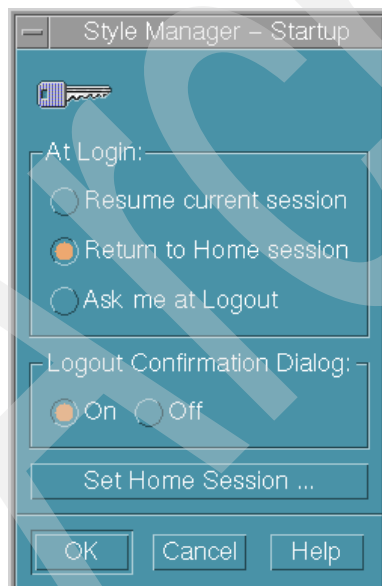

Figure 4-5 Style Manager - Setup
4. To make your changes permanent, select **Return to Home session** and select **Set Home Session**, as shown in Figure 4-5. All new settings are stored in the .dt directory in your home directory.